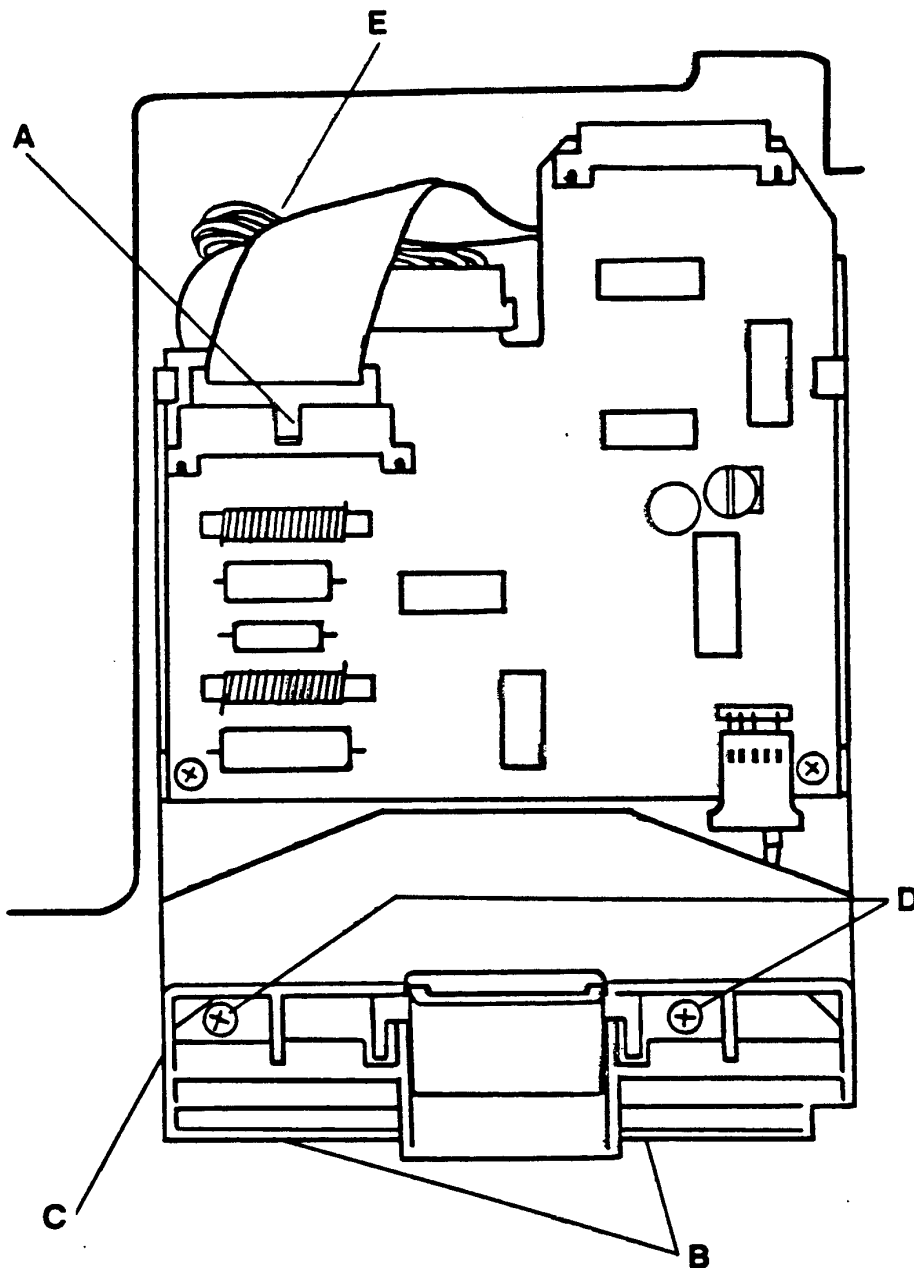

FIGURE 5.1
4. Disconnect the disk ribbon cable by pushing on the center tab of the plug with a small screwdriver. Refer to Figure 5.1 item A. Do not pull on the cable.
5. Scribe a line on the Apple /// chassis along the front (Figure 5.1 item B) and left side (Figure 5.1 item C) of the Disk Assembly bezel. This line will provide a location reference when the Disk Assembly is re-installed.
6. Locate the two Phillips head screws which mount the Disk Assembly to the Apple chassis. They can be seen by looking down through the front diskette guide and door assembly. Refer to Figure 5.1 item D.
8. Loosen (Don't Remove!) the Phillips head screw through the retaining clip which holds the lower left rear edge of the Disk casting. Refer to Figure 5.1 item E.